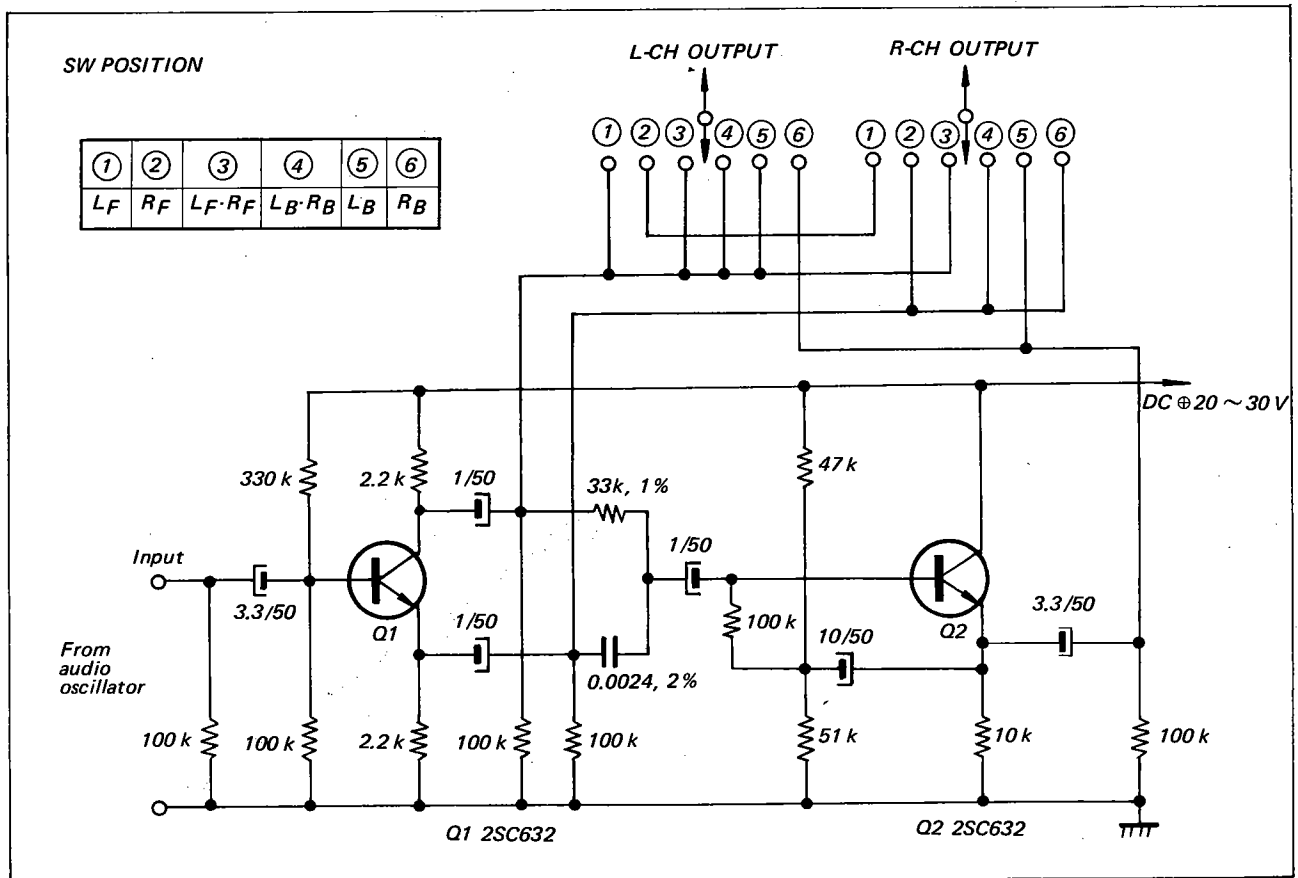

Fig. 3-1. Signal mode selector schematic diagram
SQ CHECKER Model 0005, available at each SONY Factory Service Center. The other method is by using an accurate audio oscillator and the Signal Mode Selector shown in Fig. 3-1. For accurate results with the latter method, the oscillator frequency must be set to 2 kHz  $\pm$  1%, and precision components used where indicated on the Signal Mode Selector schematic.
- (See Fig. 3-1)